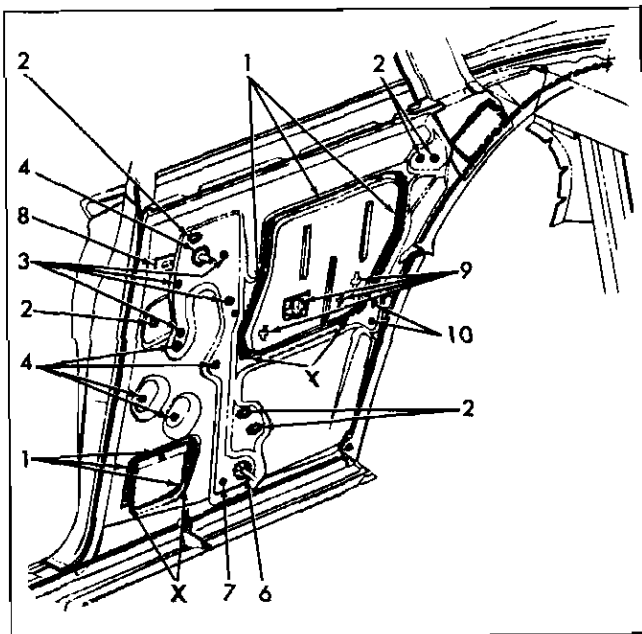

Fig. 3-7 Inner Panel Sealing—11 Styles
For "11" Styles—Fig. 3-7
The numbers on Fig. 3-7, 3-8 and 3-9 correspond to the following item numbers.
8. *Gage Slot*—Apply waterproof body tape over slot. Items 9 and 10 for "11" Styles Only (Fig. 3-7).